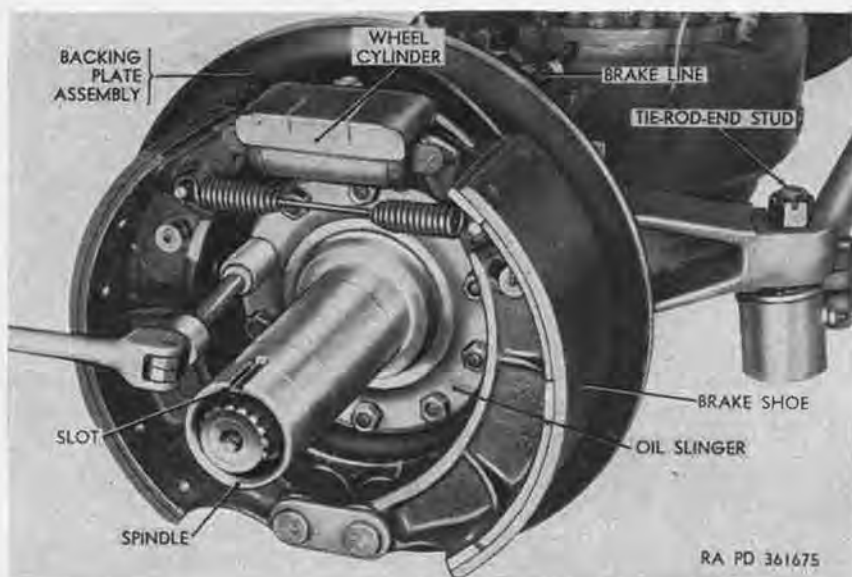

Figure 220. Removing oil slinger and backing plate.
- (1) Remove left front hub and drum assembly (par. 242).
- (2) Unscrew connector securing brake line (fig. 220) to wheel cylinder at back side of backing plate assembly, and remove line from cylinder.
- (3) Remove 10 nuts and lockwashers from studs securing oil slinger (fig. 220) and backing plate assembly to steering knuckle, and remove oil slinger and backing plate assembly.
- (4) Remove spindle (fig. 220) from outer steering knuckle flange. Spindle can be loosened from flange by tapping on side of spindle with a brass hammer and driving wedge blocks between the flange and the spindle.
- (2) Place spindle (fig. 220) over outer shaft and position spindle flange on studs on outer steering knuckle flange, making sure that milled slot on threaded end of spindle is at top.
- (3) Position backing plate assembly (fig. 220) and oil slinger on studs on outer steering knuckle flange, using nonhardening compound to install oil slinger, and install 10 lockwashers and nuts on studs. Tighten nuts.
- (4) Position brake line (fig. 220) at wheel cylinder fitting at back side of backing plate assembly, and tighten connector.
- (5) Install left front hub and drum assembly (par. 242).